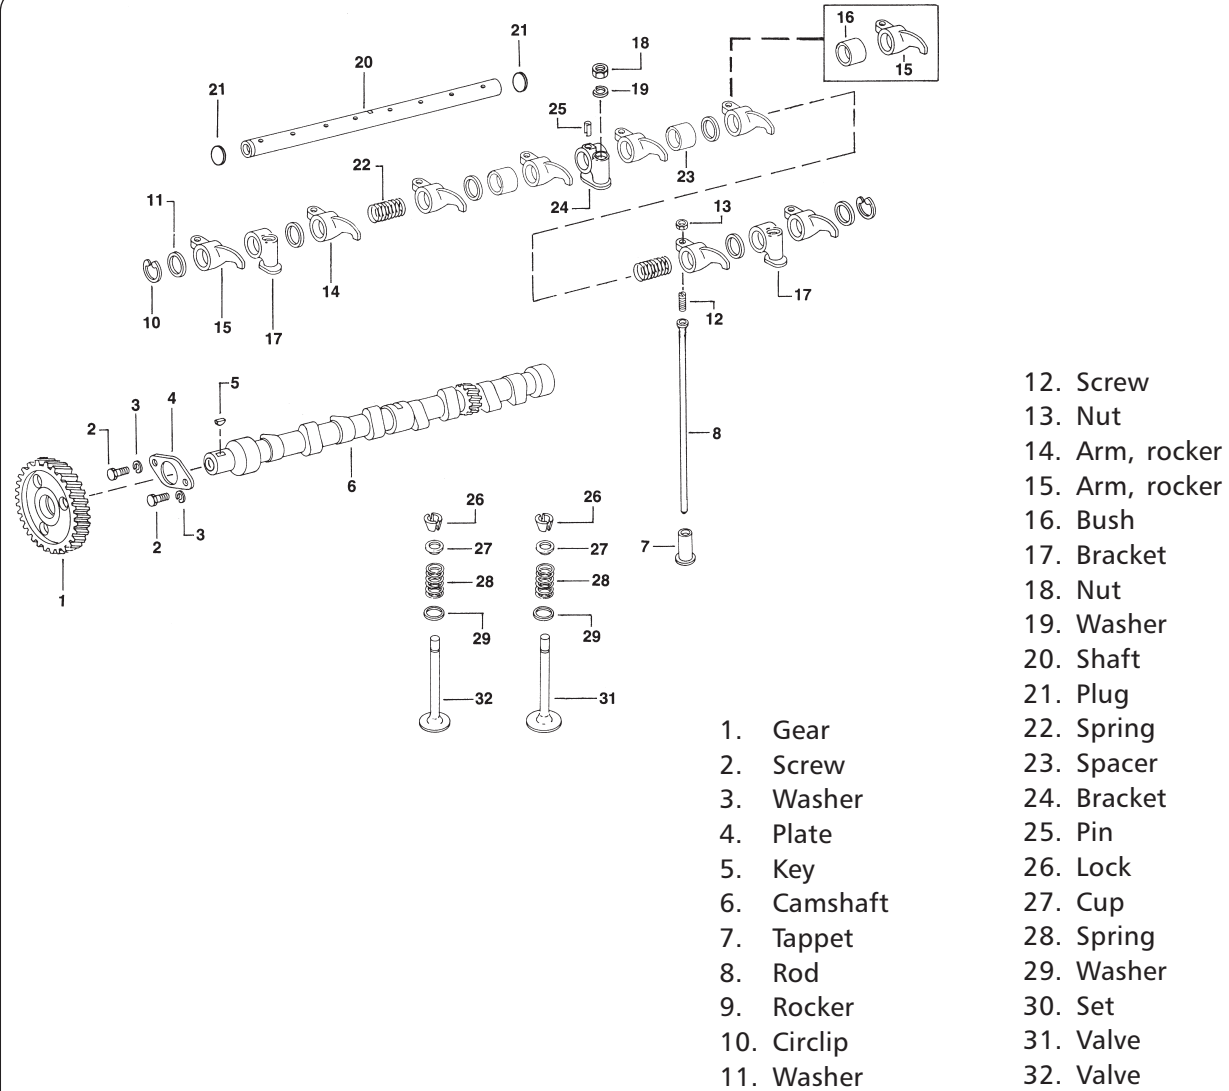

Fig. 7
Engine valve rocker arm (Ref. Fig .7).
- b) Install the valve rocker arm shaft assembly on the studs as shown in Fig. 7 and install the nuts (1-3) finger tight.